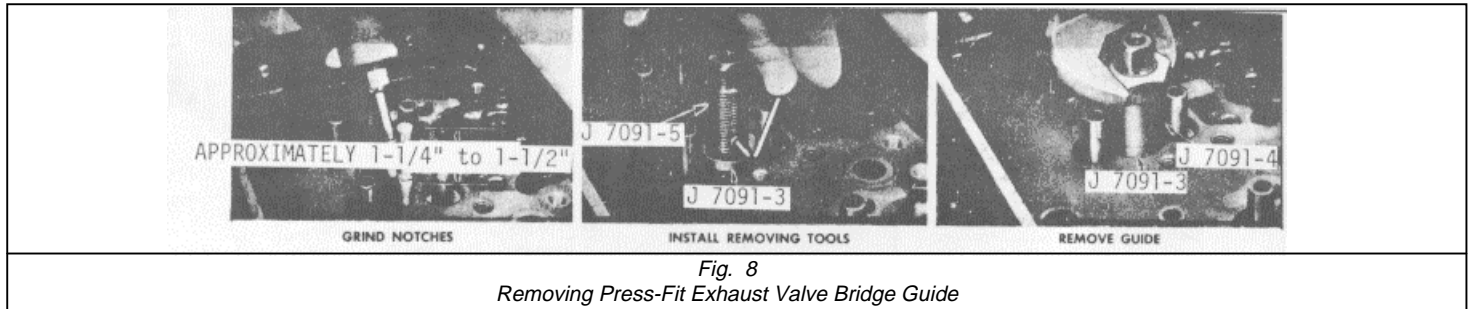

Fig. 8
- (1) Remove the press-fit guide (Fig. 8) with tool set J 7091-01 as follows: